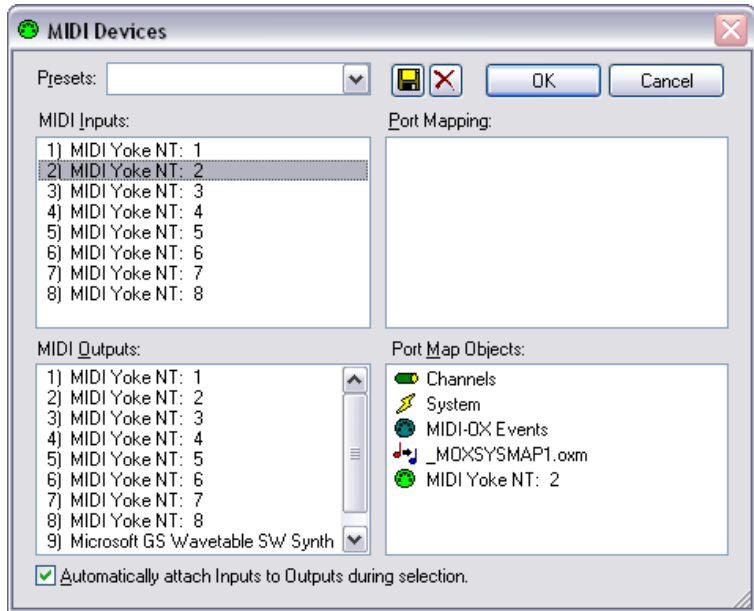

Figure 2. Selecting a MIDI Input Device
6. Select a MIDI device in the **MIDI Inputs** list as shown in Figure 2 and click the **OK** button. You must select the same device you selected in step 8 of the *Installing and Configuring MIDI Yoke* section.